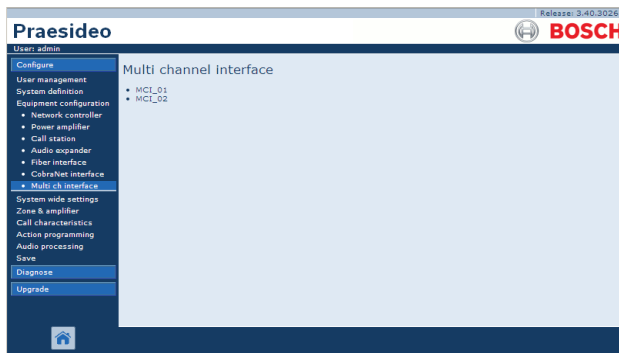

figure 43.39: Configure multi channel interface, step 1
- 1 Go to *Configure > Equipment configuration > Multi channel interface*. A screen similar to the one in figure 43.39 appears in the main frame of the web interface.